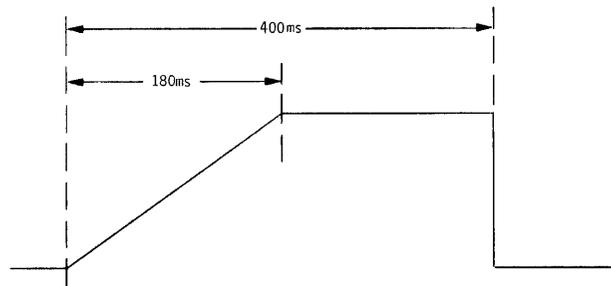

FIGURE 12-9. TIMING RAMP WAVEFORM (Step 13)
13. Adjust R49 so the ramp time is 180 ± 18 ms. The wave form should appear as shown in Figure 12-9.
18. Set calibration switches S1-1 and S1-2 to the CAL 200 NS positions: set S1-1 to the right (ON) and S1-2 to the left (OFF).